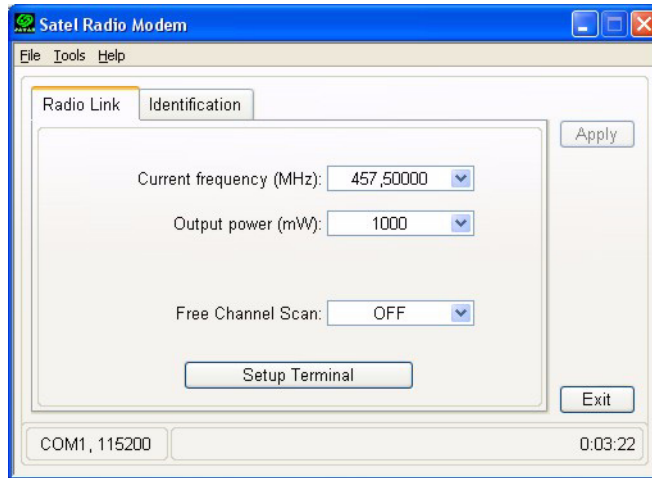

Figure 2-34. Satel Radio Link Tab
1. The **Radio Link** tab (Figure 2-34 on page 73) has settings for establishing a link between the Base Station and Rover.